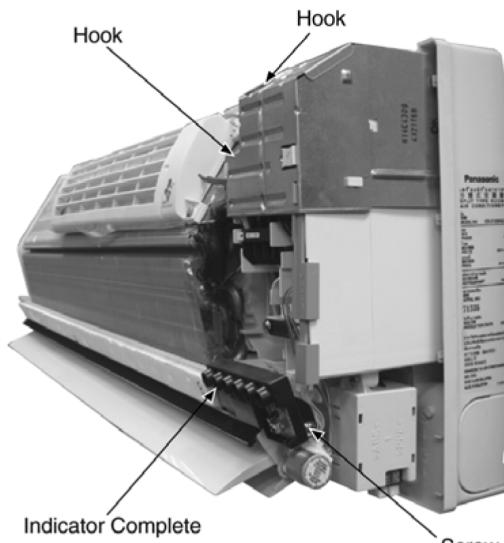

Fig. 3
- Release the tabs on top and on the right side of metal plate cover. (Fig. 3)
- Then remove the metal plate cover. (Fig. 3)
- Remove the indicator complete screw, and then remove the indicator complete. (Fig. 3)